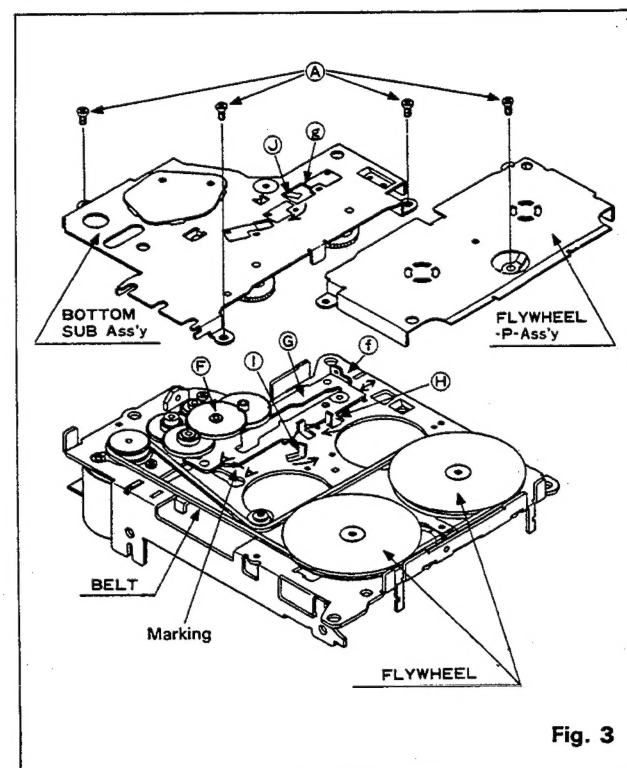

Fig. 3
- (1) Remove Screws (A) (4 pcs.). (Refer to Fig. 3)
- (2) Remove the flywheel-P-ass'y and then the bottom sub ass'y.
- (5) Following replacement of the belt, flywheel and reel base ass'y, remove the gear C (F) and move Section (f) of the mode plate ass'y (G) in the arrowed direction to make marks A-A fit. (Refer to Fig. 3).
*Moving the mode plate ass'y (G) without removing the gear C (F) causes chipping of gears.
- (6) Hold (F) again.
- (7) Move links of (H) and (I) to the arrowed direction.
- (8) Push the link (J) of the bottom sub ass'y toward the arrowed direction through the hole (e) so that the reel base ass'y is placed below the flywheel. Holding this condition, drop the bottom sub ass'y.
- (9) Reassemble the flywheel-P-ass'y and fasten it with Screws (A) (4 pcs.).